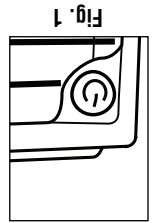

Fig. 1
1. If Red Button on front of battery pack is glowing, push button to turn power "OFF". (Fig. 1)